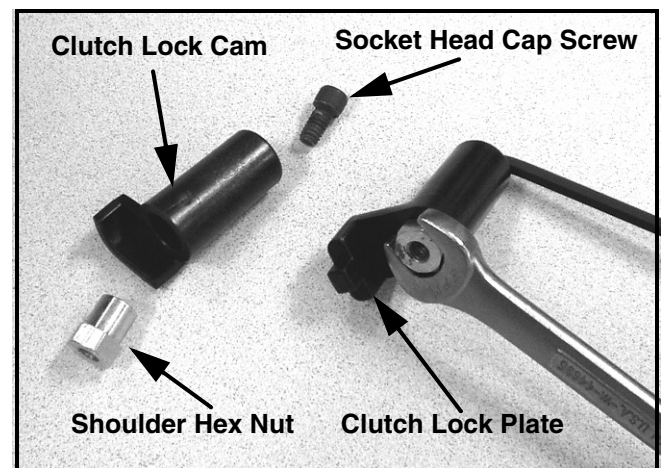

FIGURE 8
19. Using a 3/16" allen wrench and a 1/2" open end wrench, remove the socket head cap screw from within both the clutch lock cam and lock plate, separating the shoulder hex nut from the clutch lock cam and lock plate. See Figure 8.
20. Discard the clutch lock cam, clutch lock plate and both socket head cap screws. Retain both shoulder hex nuts. See Figure 8.